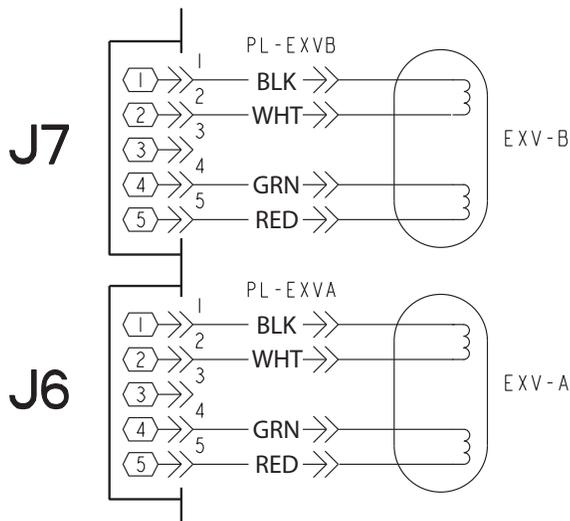

Fig. 41 — 30RAP010-060 EXV Cable Connections to EXV Module
Check the EXV output signals at appropriate terminals on the EXV board (see Fig. 41 or 42). Do not disconnect EXV connector with power applied to the board. Damage to the board may result
2. Disconnect the EXV cable from the EXV. For sizes 010-060, refer to Fig. 41 or 42 and remove the EXV retainer clip, taking care not to damage the clip as it will be required for installation later.